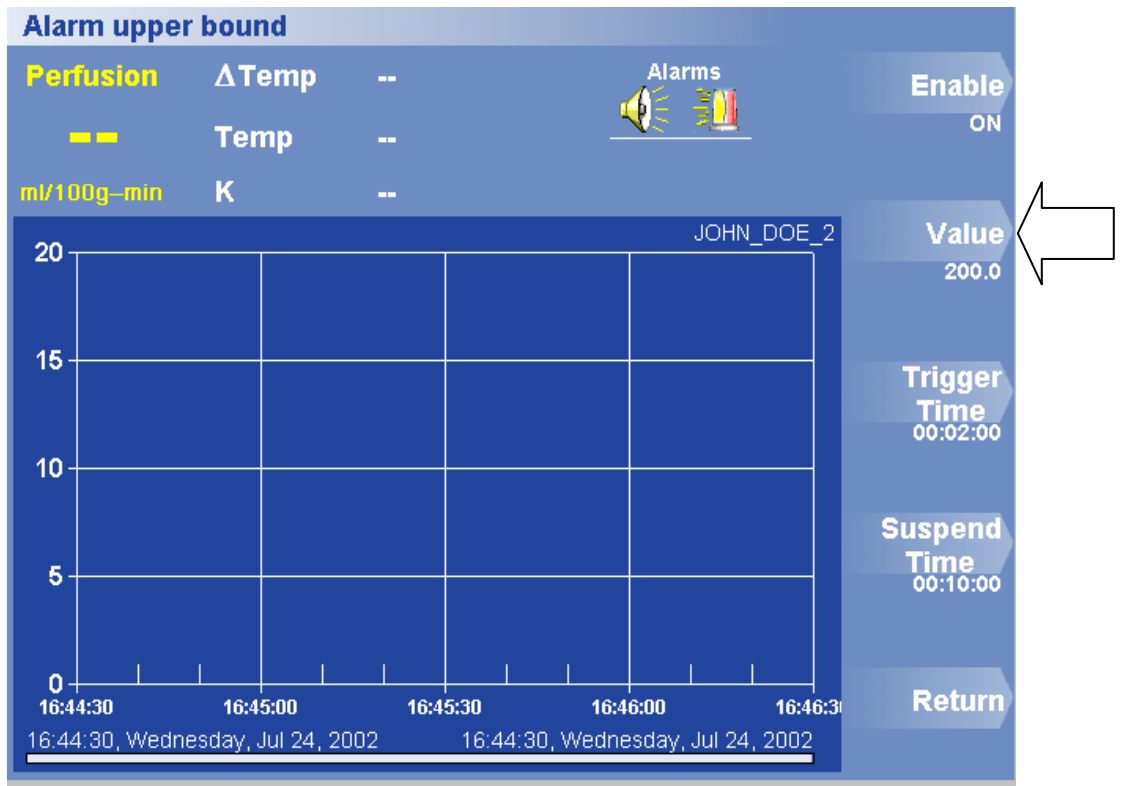

Figure 25. Set the Alarm Upper Bound Menu
2. Press Upper Bound. The Alarm Upper Bound menu appears (Figure 25).
1. Press Options > Set Alarm > Upper Bound. The Alarm Upper Bound menu appears (Figure 25).